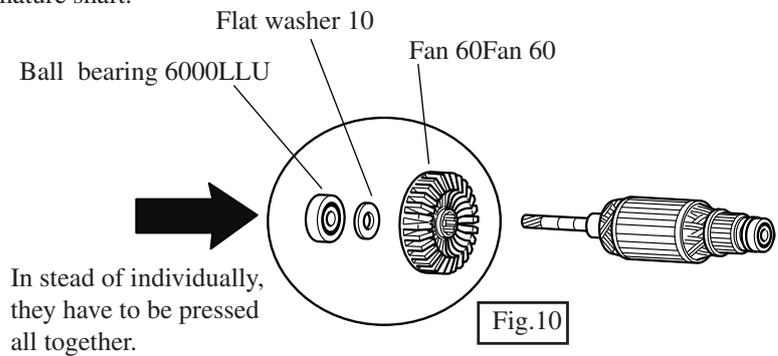

Fig.10
- (1) Press fan 60, ball bearing 6000LLU and flat washer 10 all together on armature shaft as illustrated in Fig.10. Not press them individually on armature shaft.